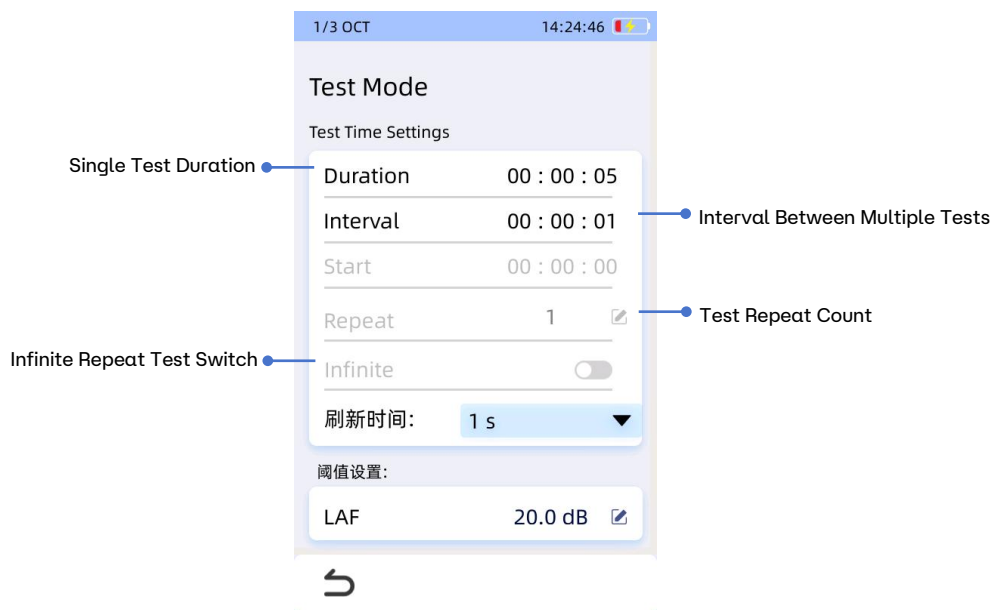

Fig 6.49 Automatic Mode Parameter Settings
- b. Automatic Mode: After clicking the start test button, the application performs the first test based on user-defined duration. Afterward, it will conduct a second test after the defined interval, repeating this process. The number of repetitions is set by the user. If the infinite repeat option is enabled, automatic testing will continue until manually stopped. The settings interface for automatic testing is shown in Figure 6.49, where the start test time cannot be edited.